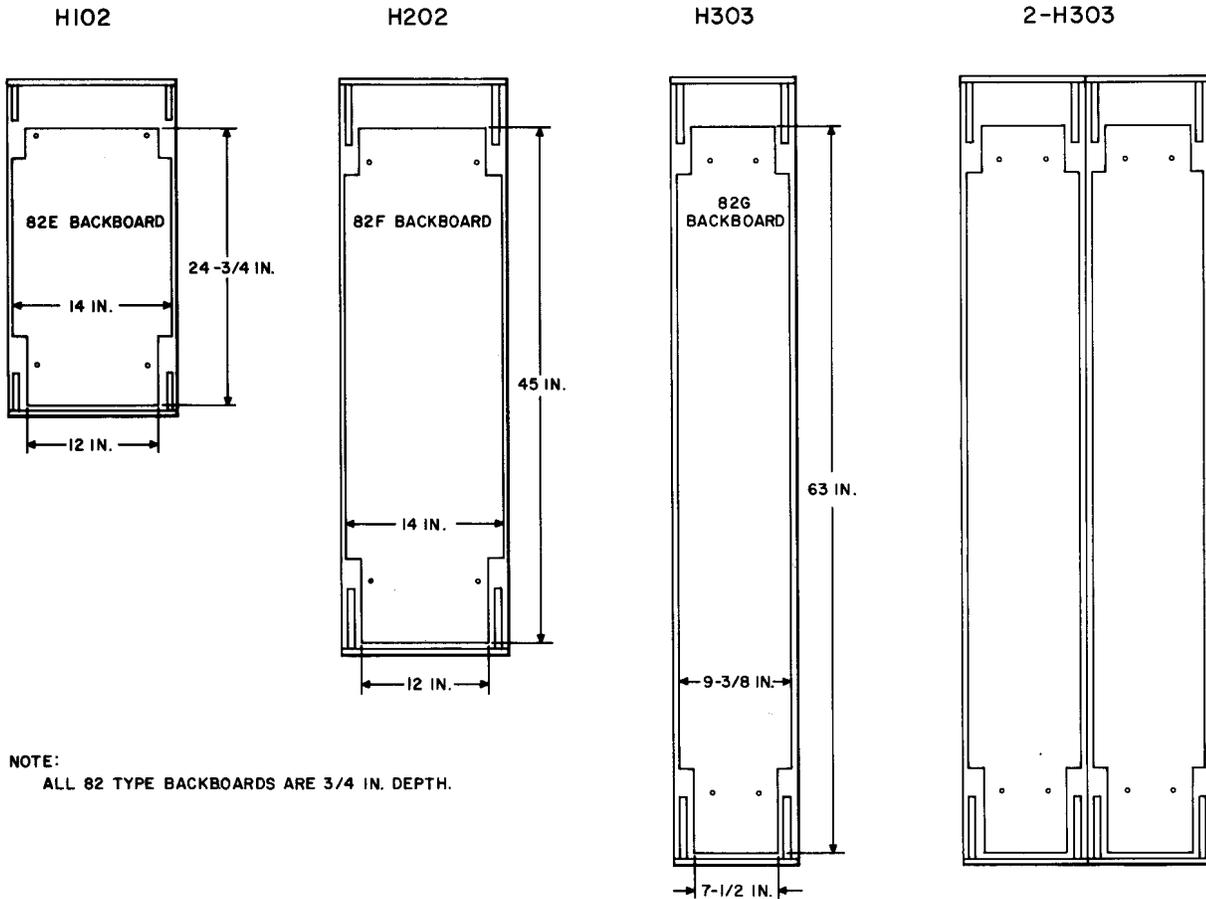

Fig. 15—Installed Backboards
4.02 The 82-type backboards are available to permit mounting of apparatus in the H-type cable terminal section. Figure 15 illustrates the 82-type backboards installed in the H-type cable terminal section. The 3A-type cable terminal sections do not require a backboard.